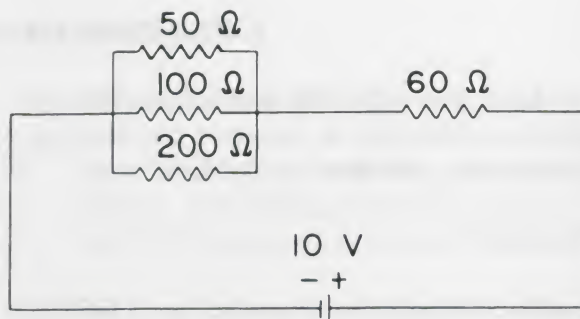
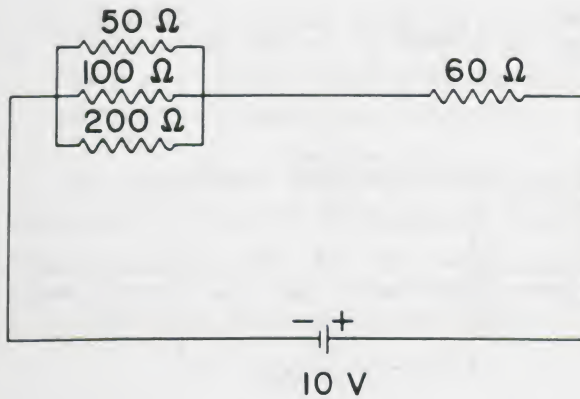

Figure 32.
Figure 34.
Some complications are introduced in the circuit in Figure 32. How does one determine the voltage drop across the 100- $\Omega$  resistor or the current in the 50- $\Omega$  resistor? The analysis can be simplified by using the results of Experiments B-3 and B-4.
The problem of analyzing the circuit shown in Figure 32 is treated in Examples 5 and 6.
*Equivalent resistance* is a useful concept because it simplifies a circuit so Ohm's Law can be applied. This point is illustrated by Example 6 in which we analyze the circuit shown in Figure 32. For convenience, the same circuit is shown again in Figure 34.
1. Draw the circuit diagram (Figure 34).